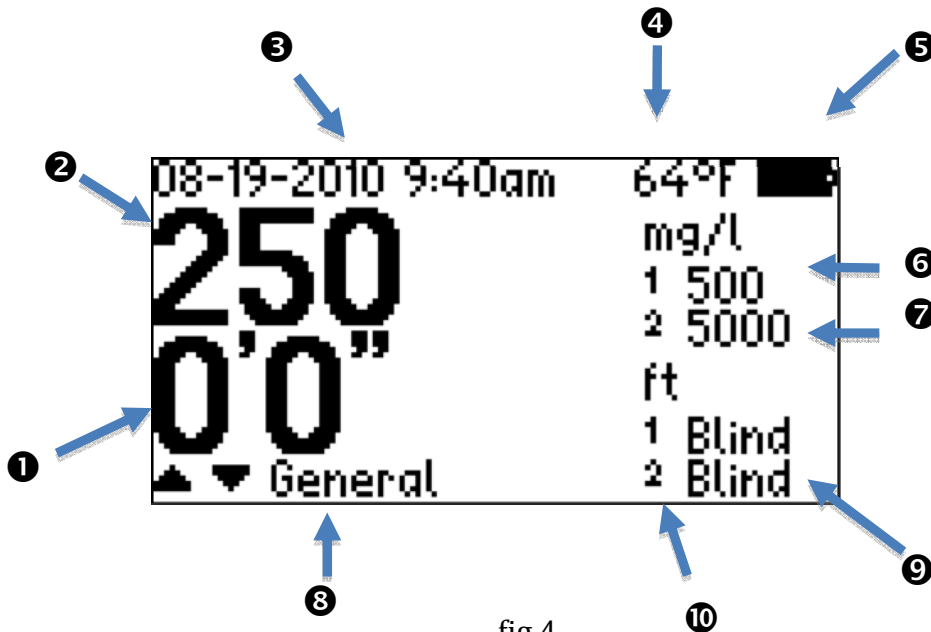

fig 4
At start up, the display is shown in fig 4 and description in fig 5. Value for solids concentration and depth are displayed on the left and alarm values for fluff (6) and sludge blanket (7) with actual depth for each as (9) & (10) below. Depths are shown as Blind until alarm for each concentration goes off. Plus date, time and temperature across the top.